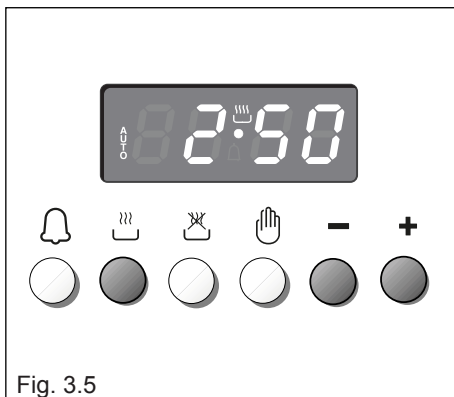

Fig. 3.5
1. Set the length of the cooking period by pushing the  button and the  button to increase, or  to decrease if you have passed the desired time (fig. 3.5). The **AUTO** and the  symbol will illuminate.